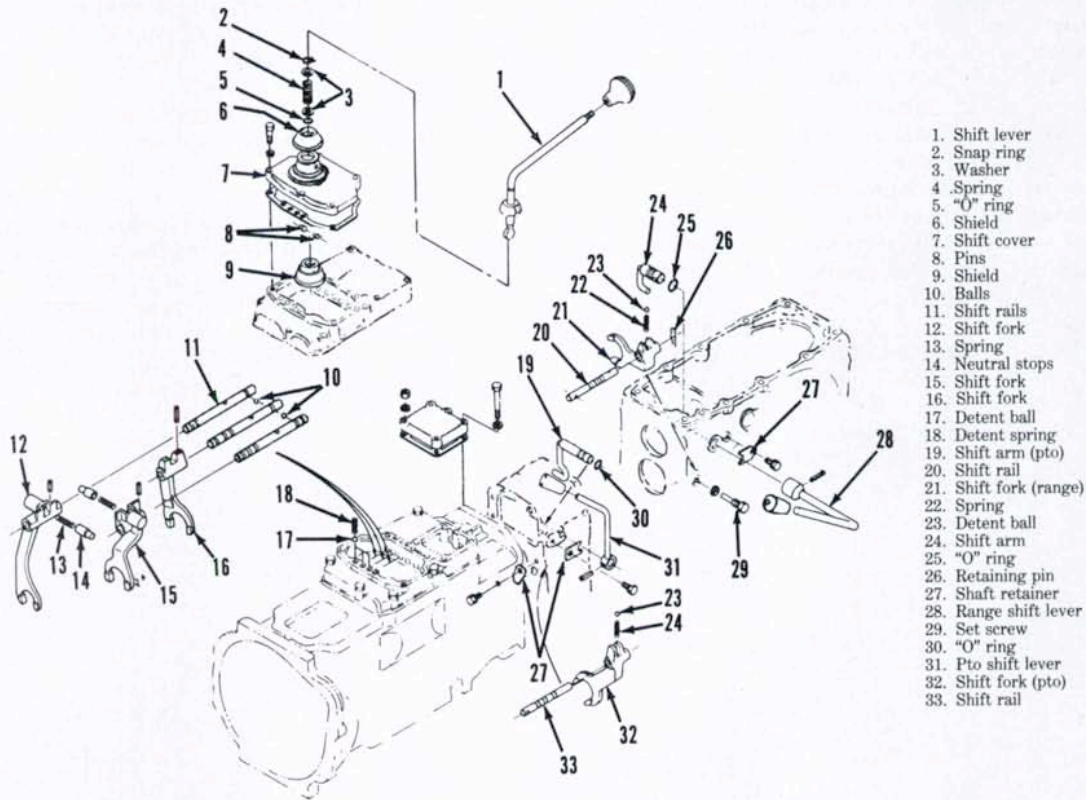

Fig. 98—Exploded view of shifter forks and shafts used on Models L305 and L345.
**69. R&R AND OVERHAUL.** Refer to Fig. 98 for an exploded view of shift rails, forks and associated parts.